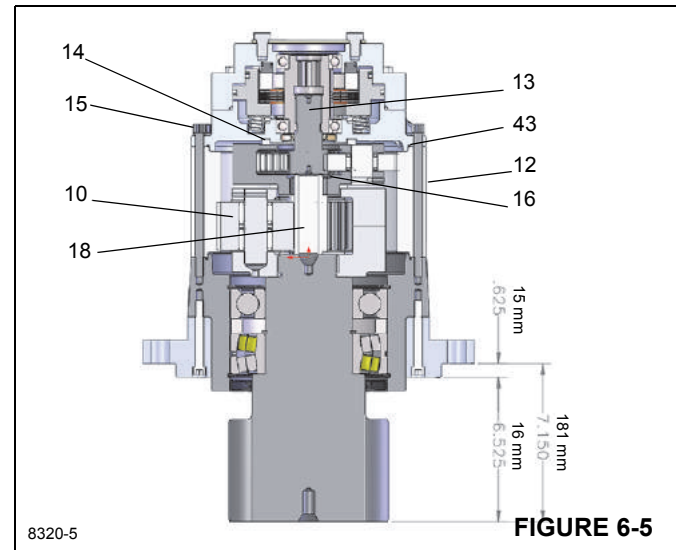

FIGURE 6-5
into the housing. For this unit the dimension is 181 mm (7.150 in). For reference see Figure 6-5.
10. Install outboard retaining ring (7) into bearing housing.
11. Install new oil seal (42) into bearing housing (1).
12. Carefully place bearing housing assembly onto pinion shaft making sure to have the appropriate spacers in place to achieve the 181 mm (7.150 in) dimensions, shown in Figure 6-5.
13. Using appropriate press tooling, install and press the spherical roller bearing (4) into the housing.
14. Install retaining ring (8) onto pinion shaft making sure it is seated properly in groove.
16. Using proper tooling press, press the ball bearing (5) into the housing.
17. Install inboard retaining ring (7) into the housing.